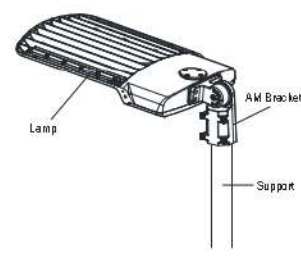

Figure 12
Step 2: Place the bracket into the pole and lock the four bolts. (Figure 12)